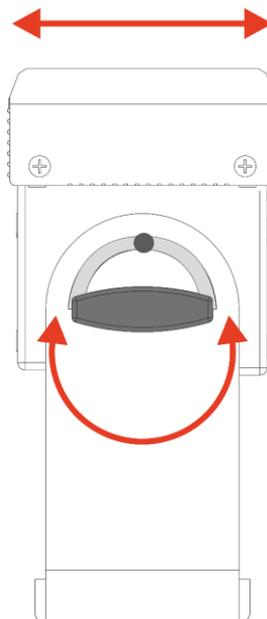

Fig. 06
- 01) Use a clamp to attach the device to the supporting structure, as shown in Fig. 06. Make sure that the device cannot move freely.
- 02) Secure the device with a secondary suspension, for example a safety cable. Make sure that the secondary suspension can hold 10 times the weight of the device. If possible, the secondary suspension should be attached to a supporting structure independent of the primary suspension. Put the safety cable around the **mounting bracket (08)**, as shown in Fig. 06.